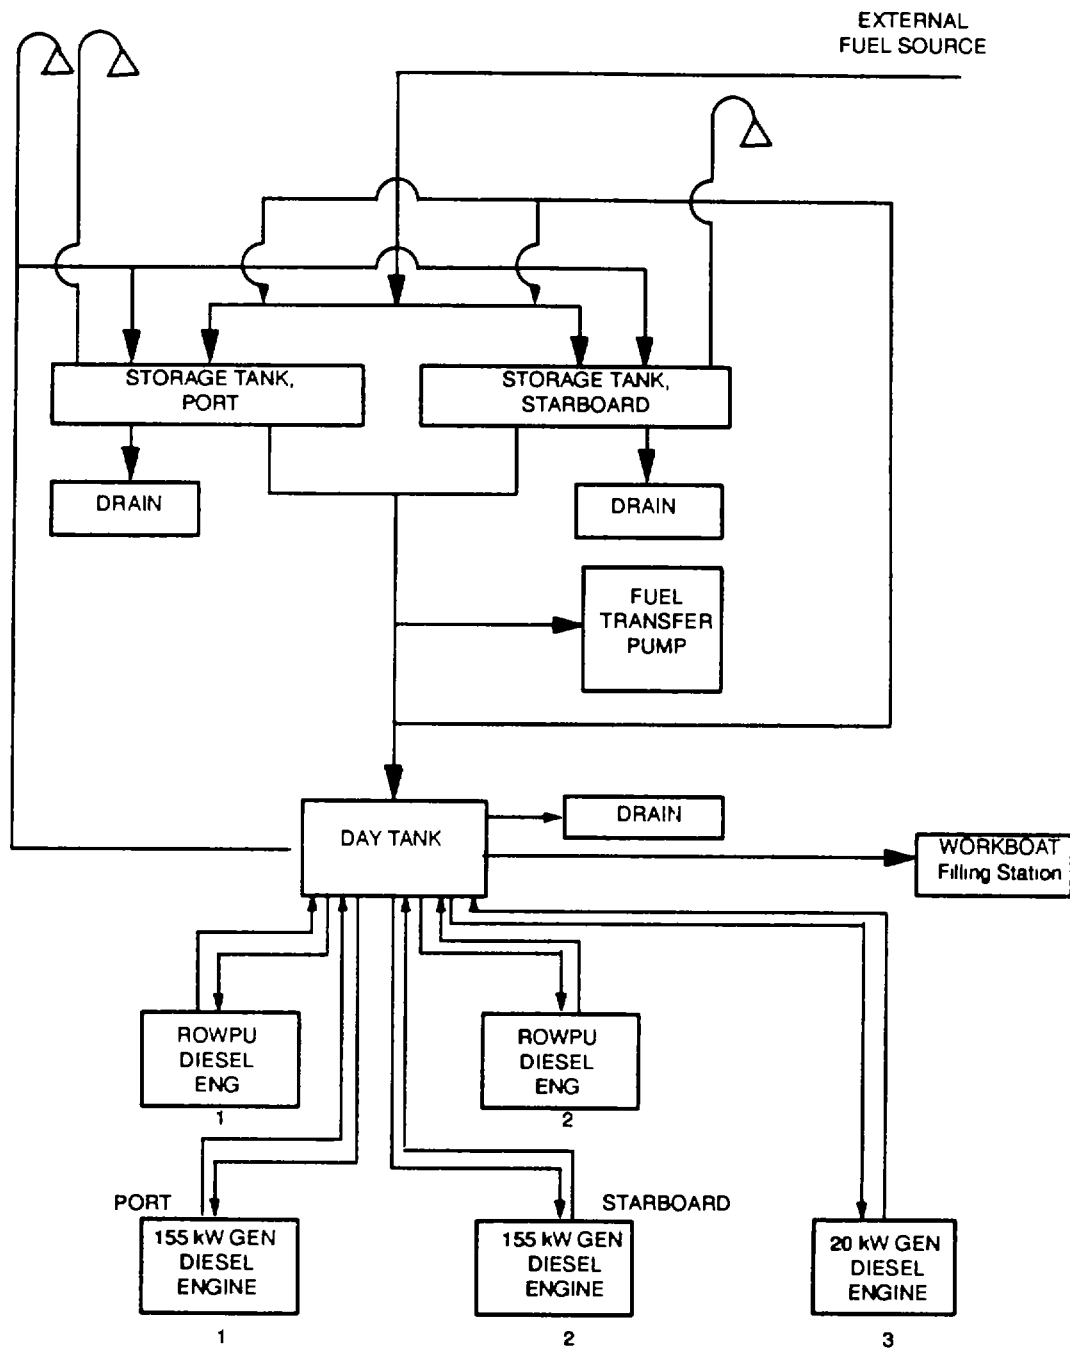

Figure 1-2. Fuel Oil System Block Diagram
1-2 Scope. The fuel system onboard (Figure 1-2) provides fuel oil for two 155 kW diesel ship service generators (SSG's), a 20 kW ship auxiliary generator (SAG), two Reverse Osmosis Water Purification Unit (ROWPU) high-pressure (HP) pump diesel engines, and a fueling station for the barge workboat.
1-7 Description. The fuel oil system provides a centralized receiving, storage and distribution system for diesel fuel used for barge operations. This includes diesel engine fuel for three generators, two HP pumps, and the workboat. Major components are listed in Table 1-1 and a block diagram of the fuel oil system is shown in Figure 1-2. System installation is shown in drawings referenced in Appendix A.